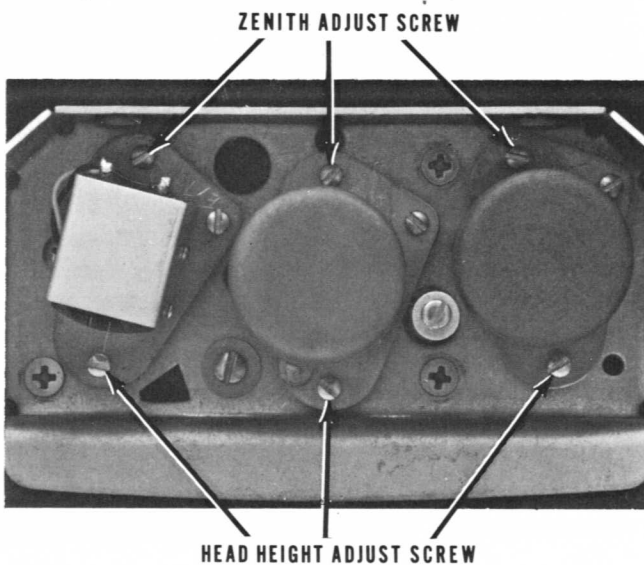

Fig. 6-2. Head Adjustments
Step 4: Turn the head height adjusting screw (see Fig. 6-2) counter clockwise until the head laminations are even with the top edge of the tape.
adjust the zenith adjusting screw (see Fig. 6-2) in small increments. Running the zenith adjusting screw out, will move the top of the head out (toward the tape). Running the zenith adjusting screw in will move the top of the head in (away from the tape). Recheck and re-adjust as required, using the grease pencil method, until zenith is correct.
Step 4: Being careful not to lose the springs beneath the head mounting, remove the three screws (head zenith, head height, head zenith, see Fig. 6-2) which secure the head stack to the base assembly. Lift the head stack from the base, guiding the leads through the hole in the base.